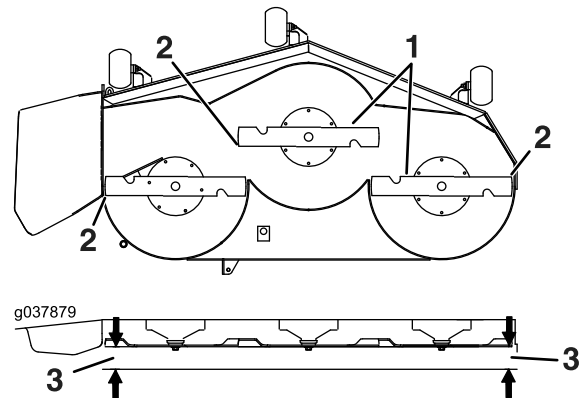

Figure 96
6. Measure between the blade tip and the flat surface (Figure 96). If both measurements are not within 5 mm (3/16 inch), adjust the leveling; continue with this procedure.
14. Carefully rotate the blades side to side (Figure 96).